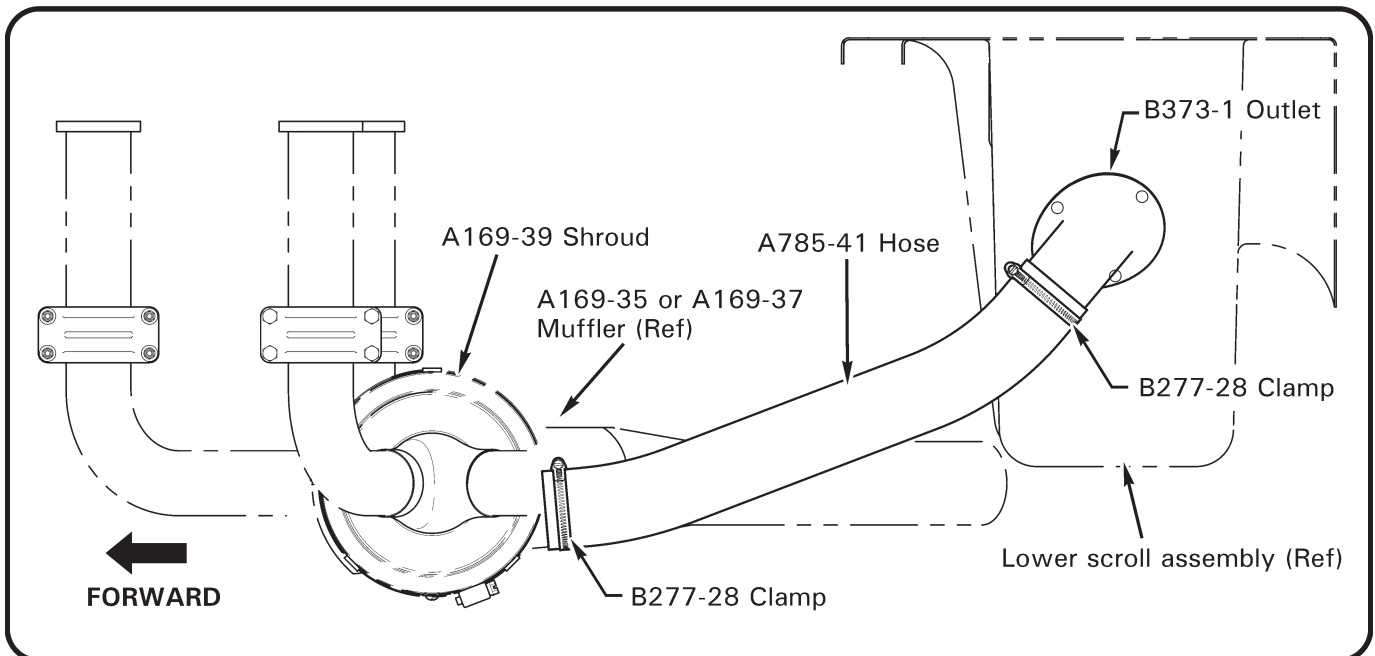

FIGURE 3
15. Install lower scroll per MM § 6.220 e); standard torque (2) AN3-41A bolts per MM § 23-32.
16. Refer to Figure 3. Install A785-41 hose to muffler shroud and B373-1 outlet using (2) B277-28 clamps.